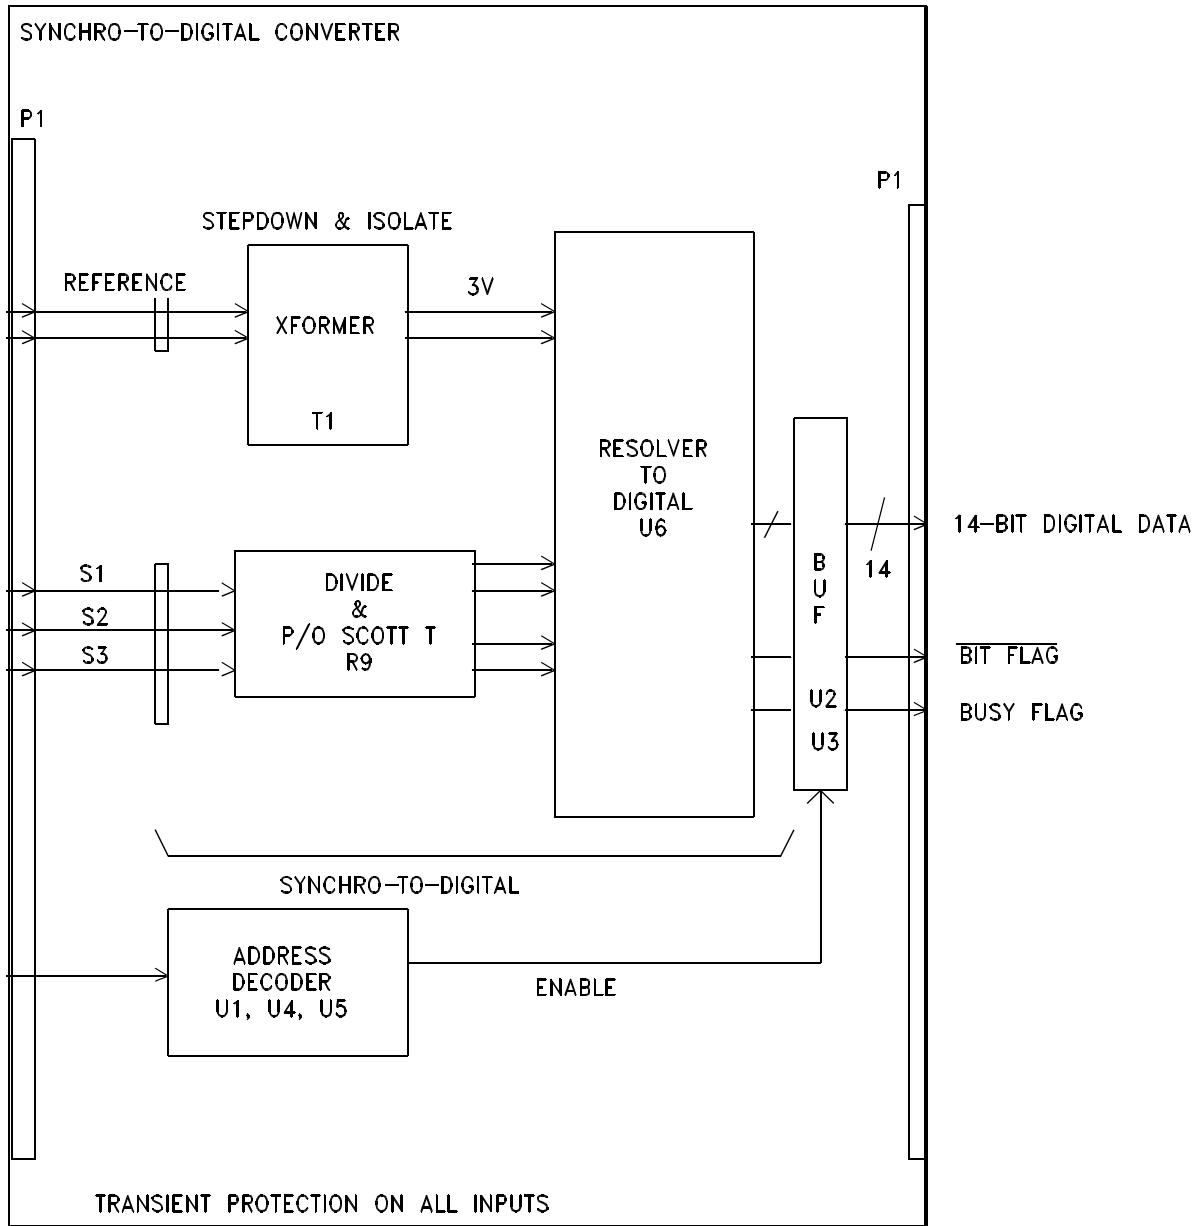

**Figure 3-8. ADIS Assembly Functional Diagram**
**3-4.2.2 Analog, Digital, Isolated Serial (ADIS) Assembly.** The Analog, Digital, Isolated Serial (ADIS) Assembly (see Figure 3-8) performs three different functions. It produces three analog outputs, and has a parallel digital interface and two serial input/output channels.